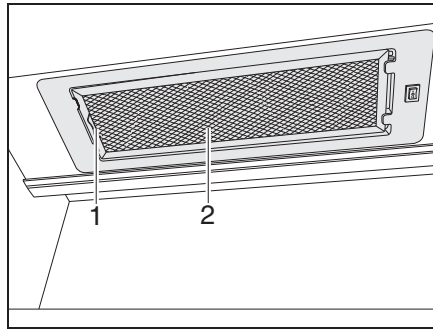

Fig. 156 Extractor hood
- Push the lever (Fig. 156,1) to the inside.
- Remove the filter (Fig. 156,2) downwards.